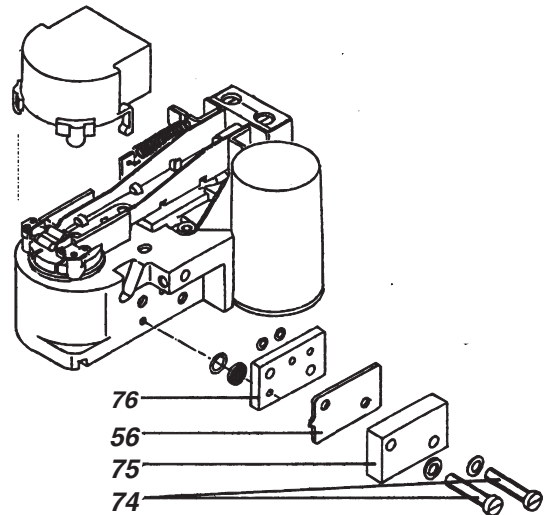

Fig. 29: Removal of the Venturi
- c) The test gauge must read 0.18 to 0.19 bar at current signal 0 mA. Otherwise set the adjustment lever **73** so that this value is indicated. If this is not possible, remove the Venturi **56** (see Fig. 29) and clean it.
#### 5.3.3 Clean the Venturi (see Fig. 29)